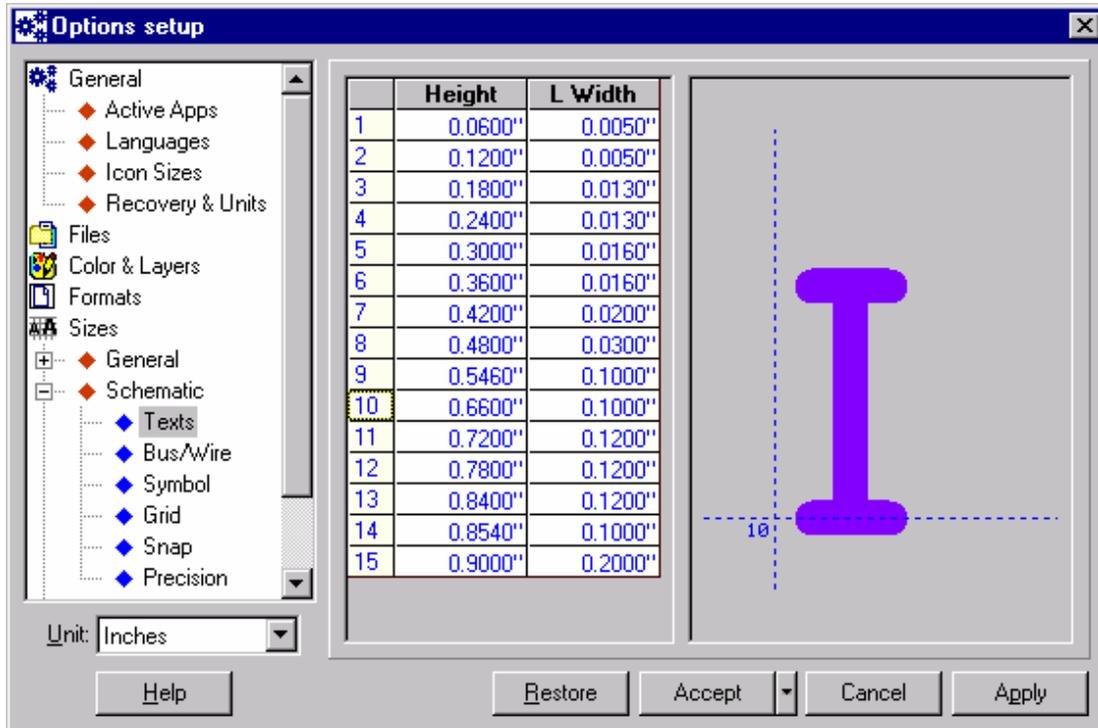

Fig: 2.10 Schematic option
**Schematic Text:** This option sets the default height and line width of schematic texts. A set of default values is displayed on selecting this. These may be changed by double clicking the value to be changed. The change is visible in the Preview part of the window immediately. Given below is a brief description of the parameters provided in the Fig.2.10.